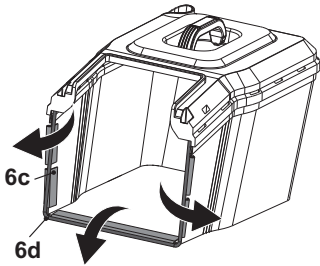

Fig. 5
1. Clip the three rubber clips (6c) to the supporting rod (6d) of the grass catcher (6) (Fig. 5).